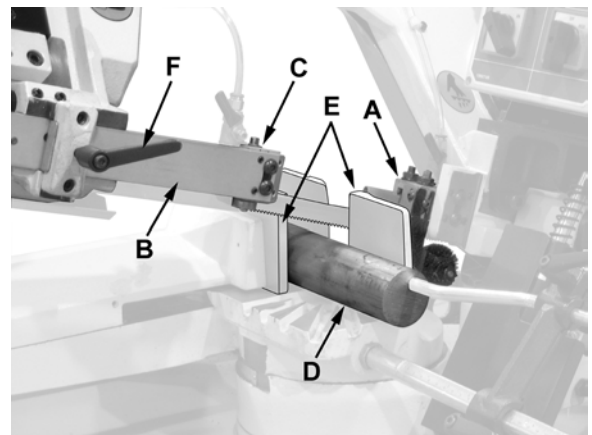

Figure 11
Refer to Figure 11. The J-9180 Bandsaw has two blade guide assemblies; one is stationary (A) and mounted to the body of the saw head. The other, consisting of a *blade guide support* or *bracket* (B) and *blade guide* (C), is adjustable.